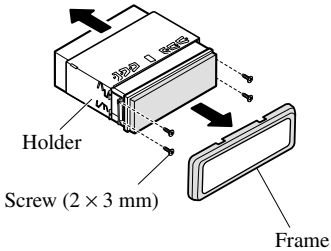

Fig. 11
- **Remove the frame and the holder. (Fig. 11)**